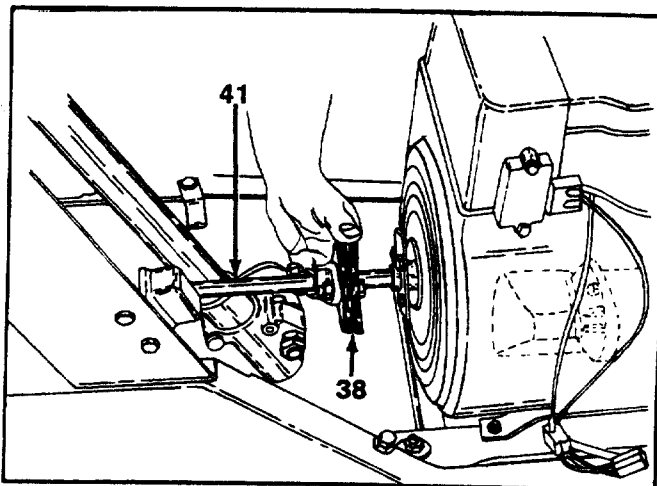

FIGURE 21.
23. Slide coupling and flexible disc back on drive shaft. See figure 21.